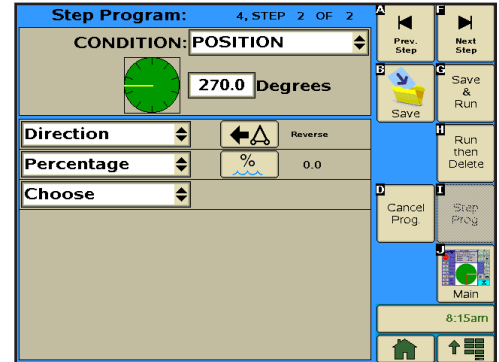

Figure 131-1
8. Program the position condition for this step. Refer to Figure 131-1.